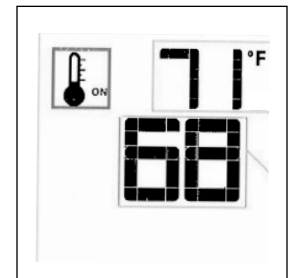

Fig. 14.14. Smart Set Temp.
- To adjust the temperature, press the Up or Down Arrow Keys until the desired Set Temperature is displayed. Fig. 14.14.